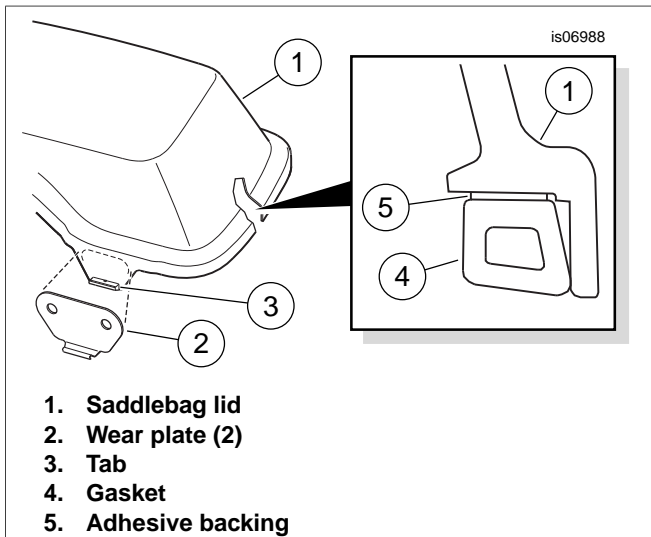

Figure 6. Assemble Wear Plates and Gasket to Saddlebag Lid
- See Figure 6. Remove the liner from the adhesive backing of one of the wear plates (2). Carefully position the wear plate to the saddlebag lid (1), centering it on the tab (3), and press firmly into place. Hold the wear plate in position with steady pressure for about a minute.
- Orient the gasket with the **tall edge** toward the outer lip of the cover as shown in Figure 6.
- Gradually remove the liner from the adhesive backing (Figure 6, Item 5) of the saddlebag lid gasket (4) as the gasket is pressed into place around the inside perimeter of the lid (1) as shown.